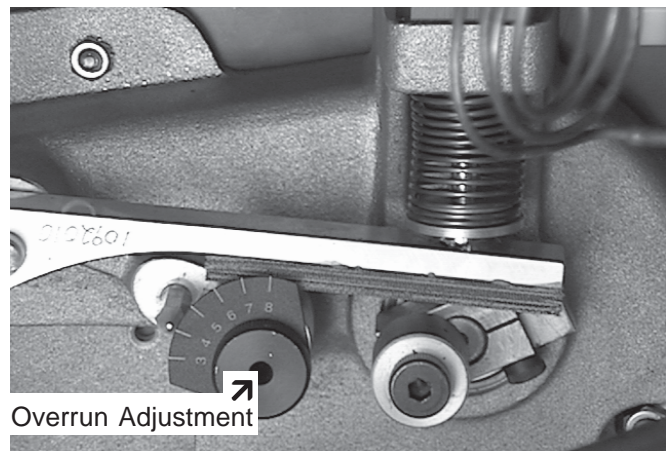

Figure 28. Overrun Adjustment
- B. Use a small screwdriver to adjust the temperature control. Turn counterclockwise for a warmer temperature and clockwise for a colder temperature. It will take about an hour for the cab temperature to change. Figure 28.